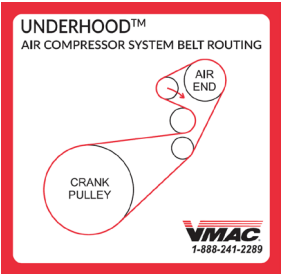

Figure 72 — Belt routing label
- ☐ Install the belt routing label in the engine compartment near the hood latch in a visible location (Figure 72).